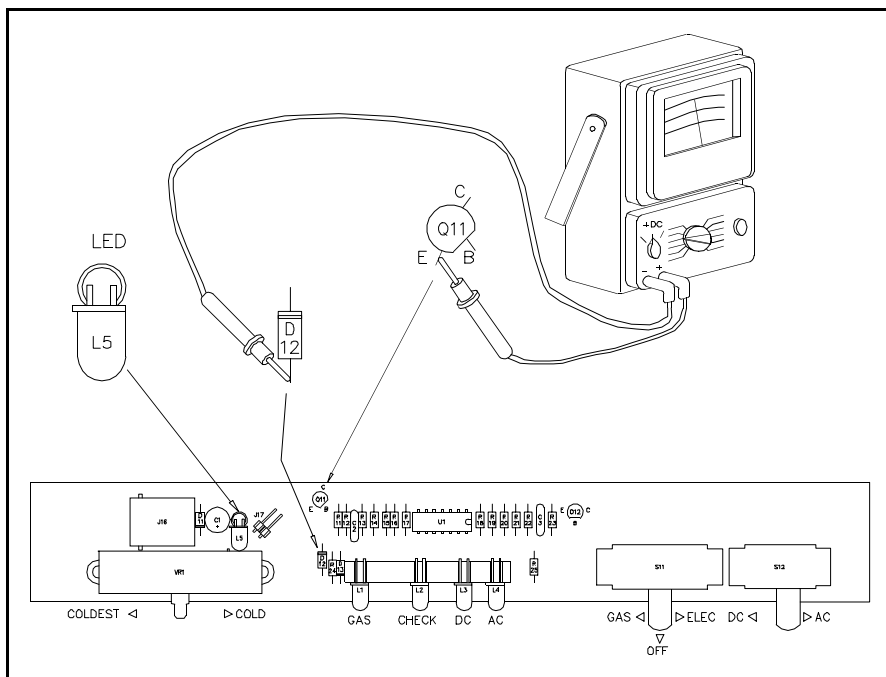
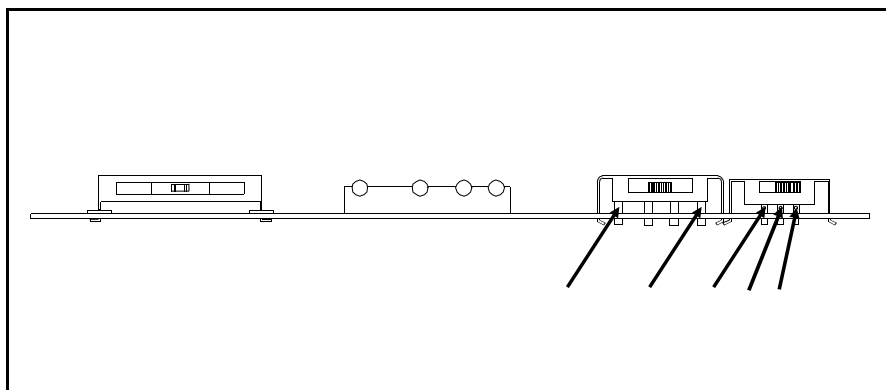

Figure 5.58 12 Volt DC Check
Figure 5.59 Control Voltage Check
11. Set the Mode Selector switch to the OFF position as shown by Figure 5.58.
12. Connect a volt meter as shown in Figure 5.58.
16. With the voltmeter's negative lead connected as shown in Figure 5.58, check the switch terminals shown in Figure 5.59.
18. Set the Mode Selector switch(es) to DC ELECTRIC Mode. Use the volt meter (with negative lead still connected per Figure 5.58) to check Points B, C and D as shown in Figure 5.59. You should measure approximately 2 volts DC. If not, replace the Eyebrow Board.